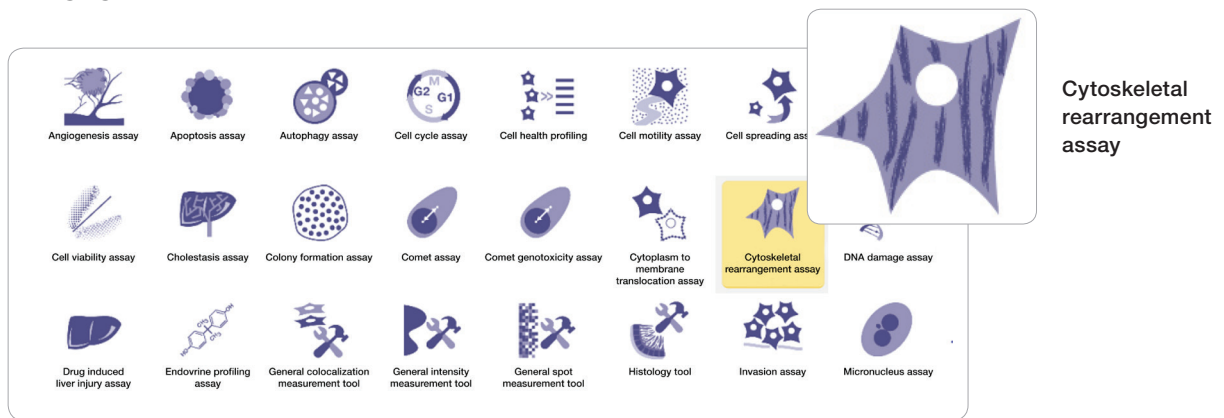

Figure 3. Icon-based guidance, accessible to novice users.
- You configure your assay quickly in a simple, icon-based interface (Figure 3)